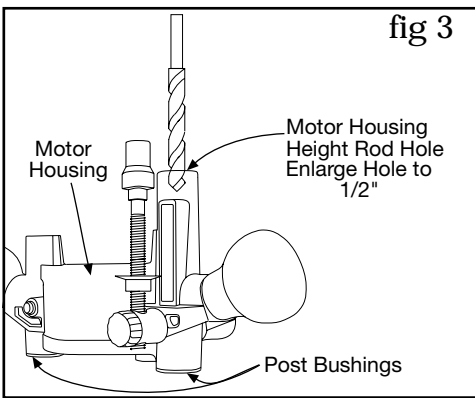

fig 3
- Select a 1/2" drill bit and drill. Using (fig 3) drill down through the motor housing height rod hole enlarging it to 1/2".
Tip: Using (fig 3) clean inside all post bushings. Apply a light film of STP © motor oil treatment. This lubricants anti-friction properties provides the smoothest possible plunge action, and helps prevent binding and chattering.